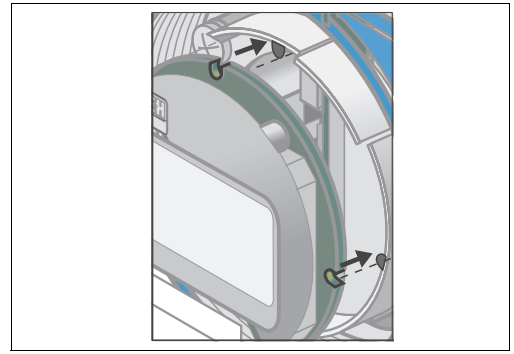

Fig. 13: Reinstalling display
3. Turn the removed display in 90 ° steps. Reinstall the desired orientation (Fig. 13). Ensure the display latches back into the guide.